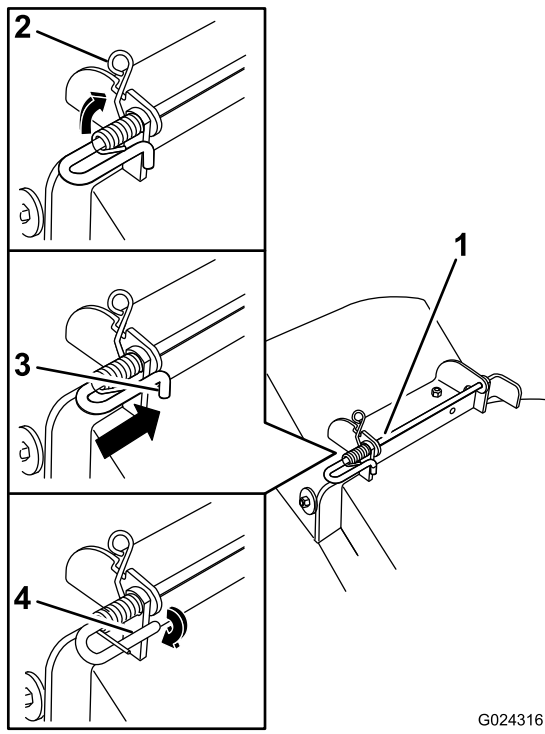

Figure 70
5. Lift the loop end of the spring and place it into the notch on the deflector bracket (Figure 70).
6. Secure the rod and spring assembly by twisting it so the short end of the rod can be placed behind the front bracket welded to the deck (Figure 70).